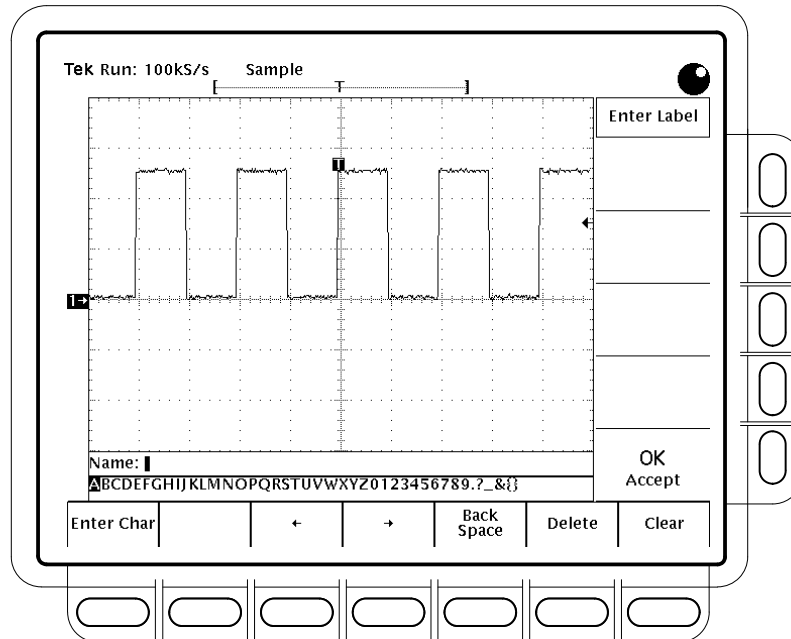

Figure 3-65: File System — Labeling Menu
**To Rename** To rename a file or directory, turn the general purpose knob until it scrolls the cursor over the name of the file or directory to delete. For example, to rename the target file whose default name is TEK????? set the cursor over its name. Then, press the side menu **Rename** button. (See Figure 3-65).
The Print-To side menu should appear. Select the port to print to from  **GPIB**, **RS-232**, or **Centronics**. (See Figure 3-65.) Then the oscilloscope will send the file in its raw form out the port. The device (printer) receiving the file must be capable or printing the particular file format.